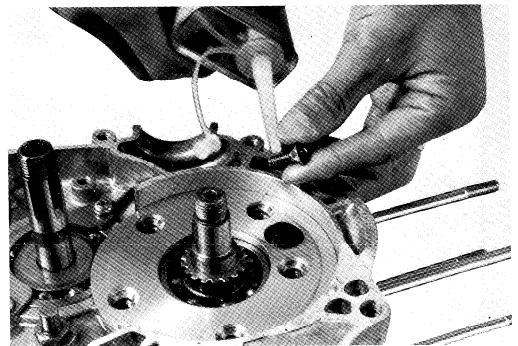

Fig. 5-5-13
9. When installing the inner valve seat, apply thread lock cement to the end of screws and tighten them firmly. If the thread lock cement climbs up thread and adheres to the surface of the inner valve seat, wipe it away. As the inner valve sheet fitting screws, be sure to use flat head countersunk screws with the whole length of 16mm (0.63 in) to keep them from touching the crankwheel. (Fig. 5-5-13, 14)